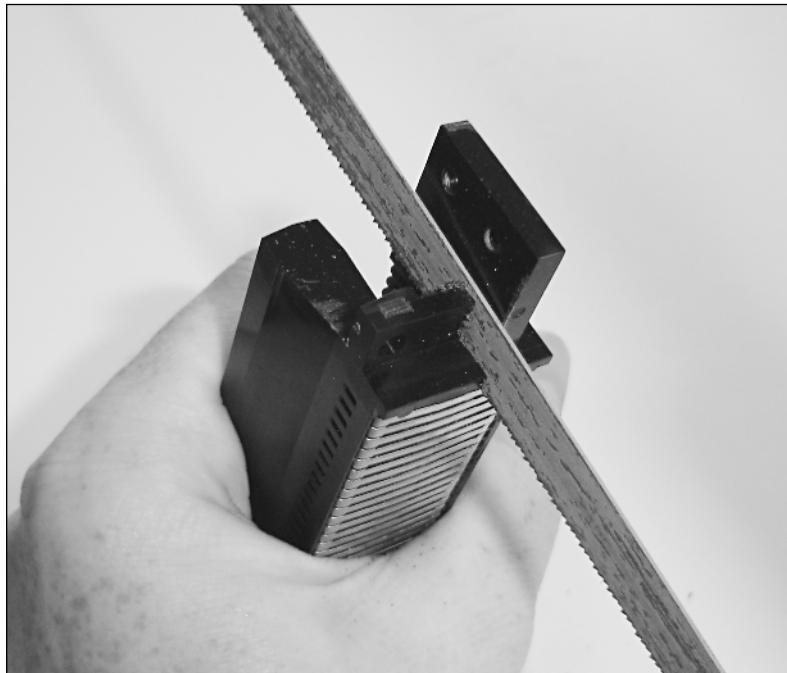

FIGURE 8-7: Where to cut the connector in half. (Don't let your old shop teacher catch you sawing like this!)
5. Now it's time to cut the cartridge connector in half. This will remove the end that originally connected to the NES cartridge. Begin by using your hacksaw to cut both sides of the plastic as shown in Figure 8-7 below. Cut from the sides until the blade hits the first metal leads, then stop and cut the other side. The blade should be going just alongside the portion with the screw holes.